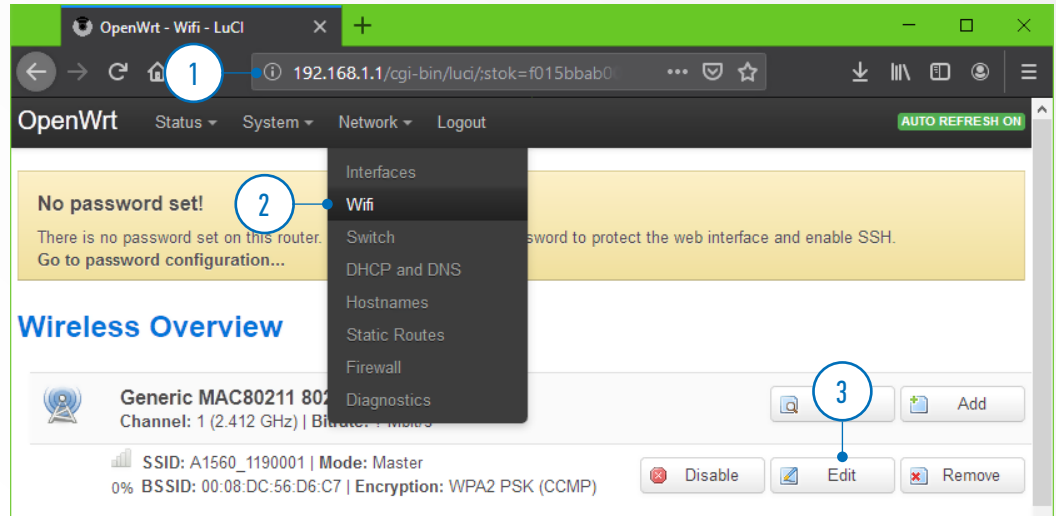

FIGURE 6 EDITING WI-FI NETWORK PROPERTIES
2. Select **Network ->Wi-Fi** from the top menu (Fig.6 Pos.2)
3. Click the **Edit** button (Fig.6 Pos.3)